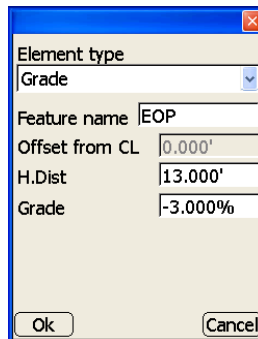

Figure 2-21. Template Parameters Dialog Box
12. On the *template parameters* dialog box, set the following parameters, then press **Ok** (Figure 2-21 on page 2-15). Available parameters depend on the element type.